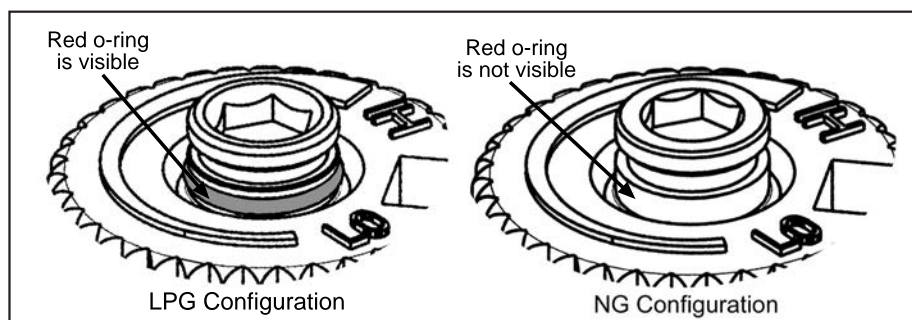

Figure 19: O-ring on valve screw.
- f) Verify that if the conversion is from NG to LPG, the screw must be re-assembled with the red o-ring (refer to Figure 19). If the conversion is from LPG to NG, the red o-ring of the screw must not be visible.